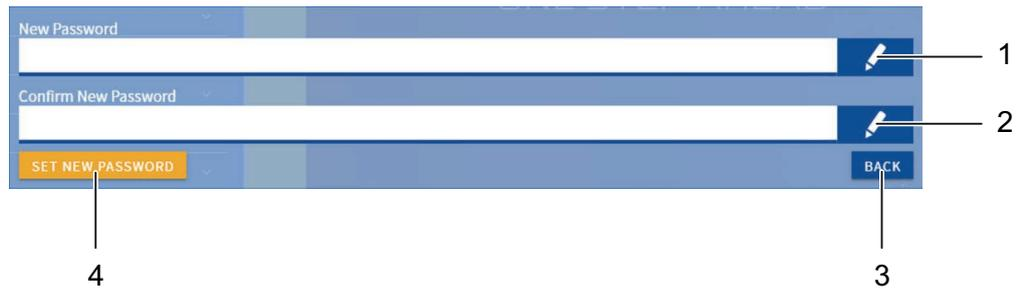

Fig. 41: Set new password window
- ➔ The **Set new password** window opens (see fig. 41).
- ▶ Enter the new password in both input fields (fig. 41, items 1 and 2) and set the password by pressing the corresponding button (fig. 41, item 4).